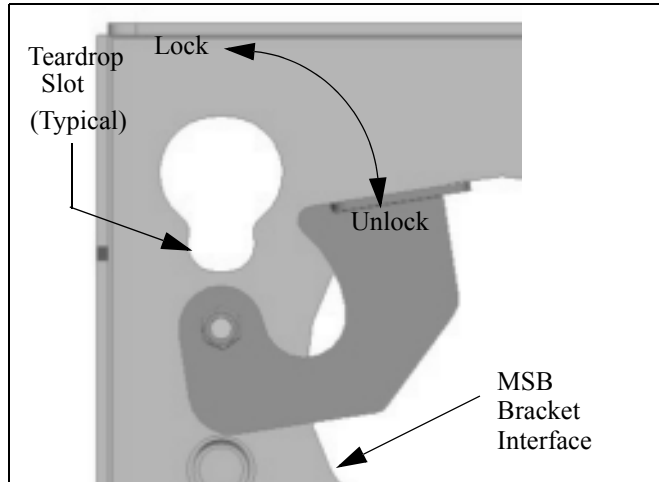

Figure 6: Locking Device
1. Make sure power is not supplied (turned off) to the display and the locking device is in the unlocked (down) position (see Figure 6) before attempting to mount the display.
4. Secure the mounting bracket to the PNR by completely engaging the locking device (see Figure 6).